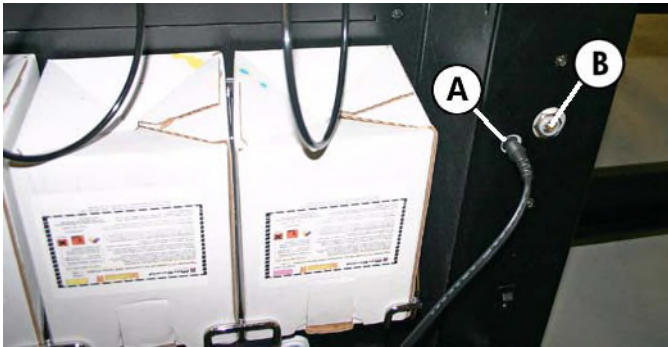

Figure 19 H-series auxiliary power input (A) and regulator adjustment location (B)
The procedure to set the regulator depends on whether the vacuum assembly is an original-style H-series model or the newer H-series version with the large external filter. All FB950 printers have the newer style. To determine which version is installed on an H-series printer without removing any enclosures, locate the auxiliary power input location ("A" in Figure 19). If a green LED is visible at the power port (slightly recessed in the printer), then the vacuum assembly is the newer style. If no LED is visible, the vacuum assembly is the older style.
4. If the vacuum level is still low, and the vacuum pump is not running, turn the vacuum regulator screw ("B" in Figure 19.) clockwise until the pump turns begins to run.